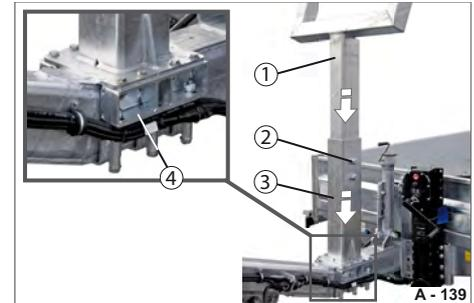

Fig. 199 Conveyor belt carrier assembled
- ▶ Position the mount (Fig. 199/3) with shoe console (Fig. 199/4) on the drawbar.
- ▶ Insert the U-tube fork (Fig. 199/1) at the top into the mount.
- ▶ Tighten down the bolt connection (Fig. 199/2).